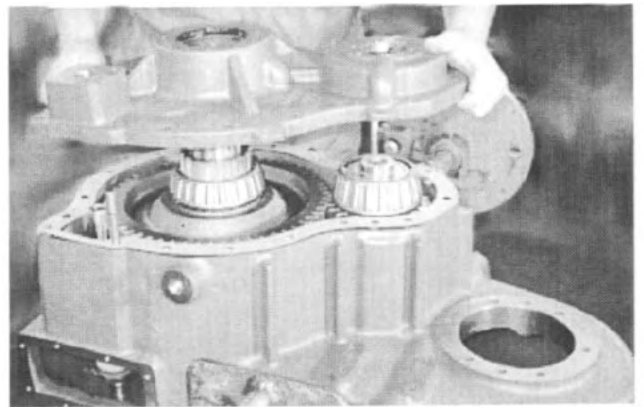

Fig. 65
9. If removed during disassembly, install two (2) new short dowl pins into the transfer case housing. Place a new rear carrier gasket onto the machine surfaces of the transfer case housing. Install the rear carrier, with bearing cups, onto the transfer case. Make sure the shifter shaft fork assembly is properly aligned. See Fig. 65.